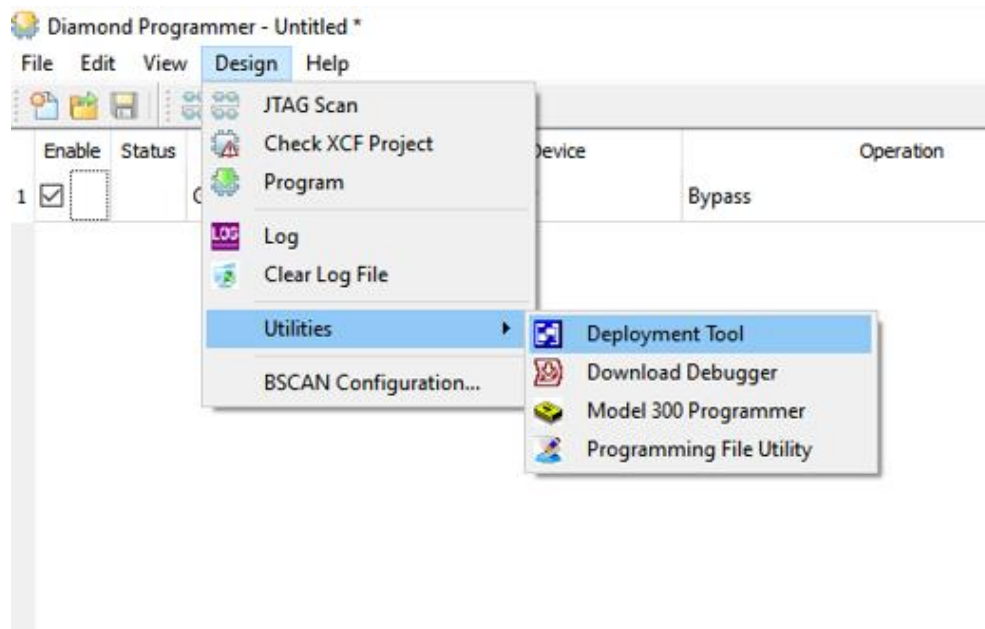

Figure 5.1. Launch the Diamond Deployment Tool through Diamond Programmer
3. Launch the Diamond Deployment Tool from the Windows Start menu, or through Diamond Programmer by clicking the **Design > Utilities > Deployment Tool** from the drop-down menu as shown in Figure 5.1.